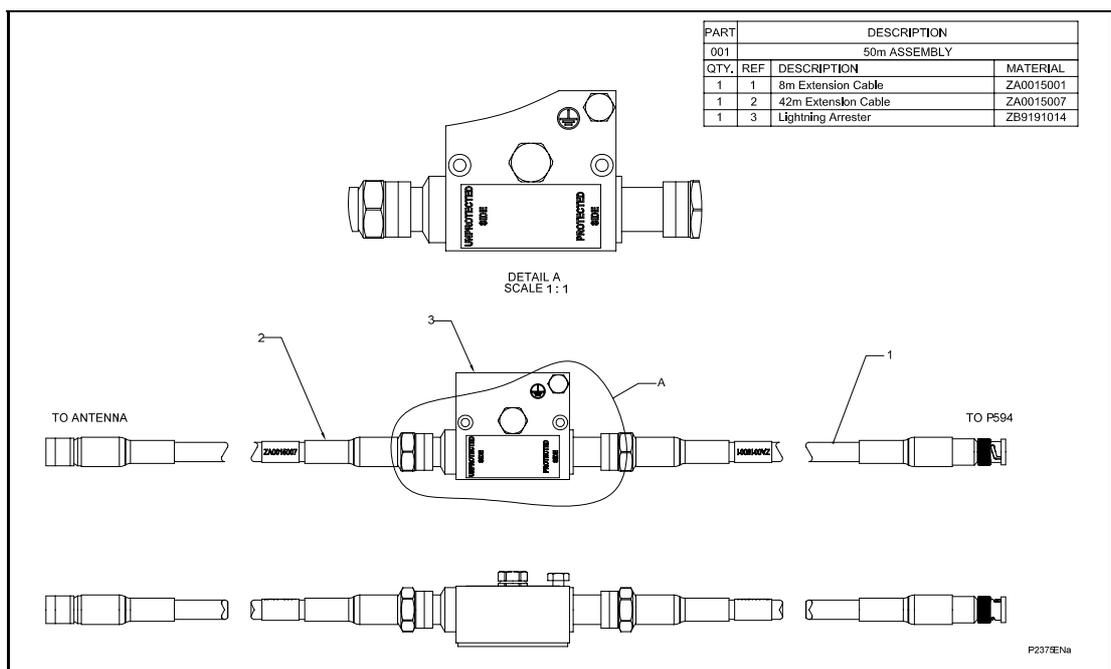

Figure 3: 50m antenna cable kit components
- The antenna should be mounted so that it is just above the roofline of the building ensuring that there is a 360° horizontal and 150° vertical view of the sky (max. masking angle of 15° with respect to the horizon - see Figure 3). Ideally there should be no obstructions in view e.g. metal structures or buildings. **Under no circumstances must the Antenna be mounted below the roofline.** If the masking angle is greater than 15° with respect to the horizon (i.e. if is a large obstruction) the antenna must be re-sited or mounted on a longer antenna pole. Any obstructions to the antenna's line of sight may cause a reduction in the P594's ability to provide the time synchronizing signal required by the P54x relay or CVCOM.